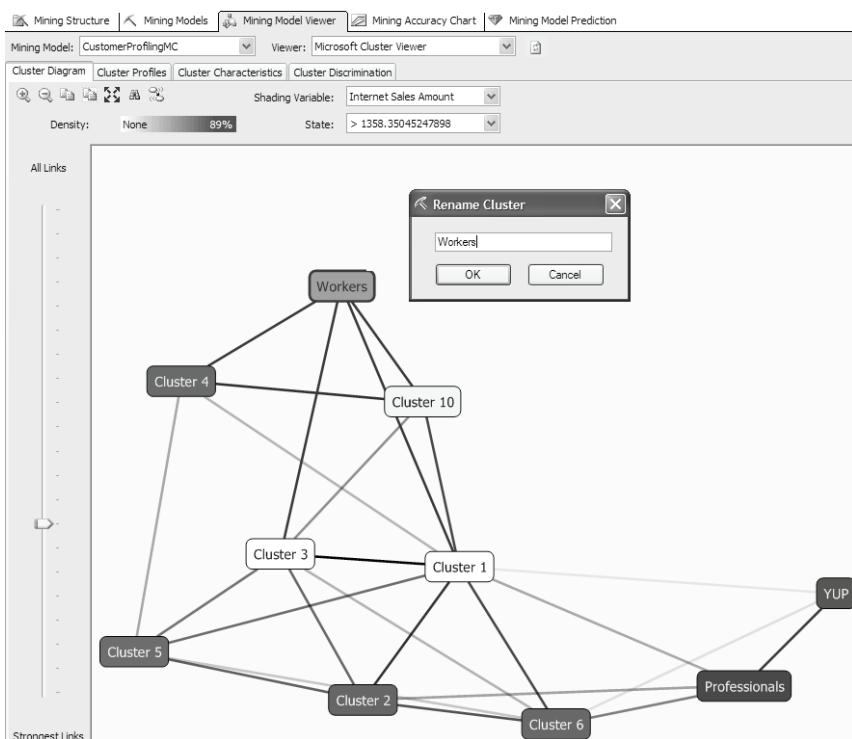

Figure 8.7 Use the Microsoft Cluster Viewer to quickly identify useful clusters.
Now that the Customer Profiling OLAP model is built and deployed, let's find out how it can help us categorize the Adventure Works customers. Models based on the Microsoft Clustering and Naïve Bayes algorithms have similar viewers. We can identify the most significant clusters easily by using the Cluster Diagram tab (Figure 8.7) of the Microsoft Cluster Viewer.
1. Back to the Cluster Diagram, we can rename a cluster to give it a more meaningful name by right-clicking on the cluster node and choosing *Rename Cluster*. Rename cluster 7 to **Workers** (see again Figure 8.7)